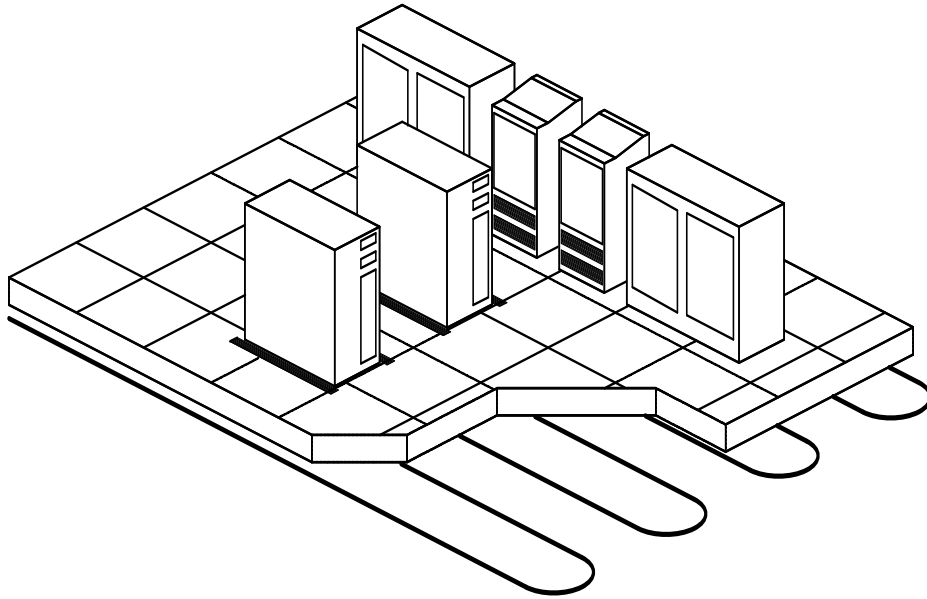

Figure 17
4. Starting from the unit, connect a minimum of 50' of jumper cable before connecting the sensor cable. Route the sensor cable as shown on the contract drawings. Most designs require the sensor cable to be installed in a serpentine pattern of 4' centers. Normally, this method gives satisfactory protection and does not require the cable to be repositioned when equipment is moved at a later date. Typically, centers of 6' through 12' can be used if the facility has low risk (see Figure 17).